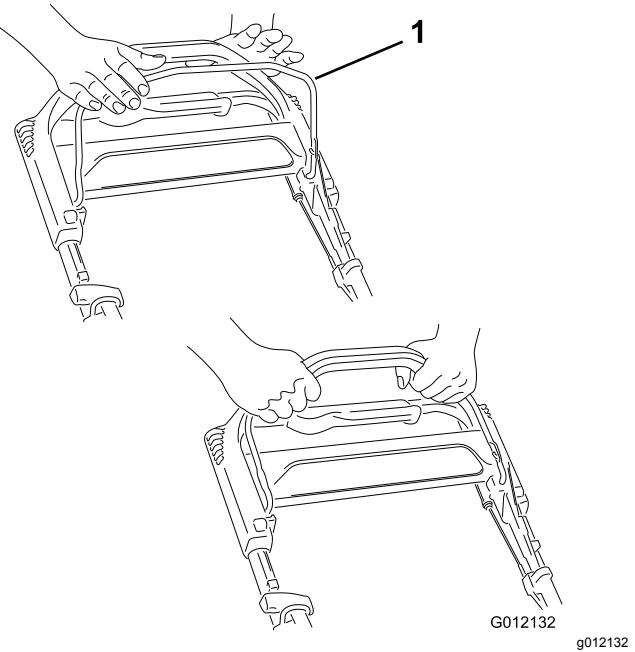

Figure 15
1. Pull the blade-control bar to the handle and hold it (Figure 15).